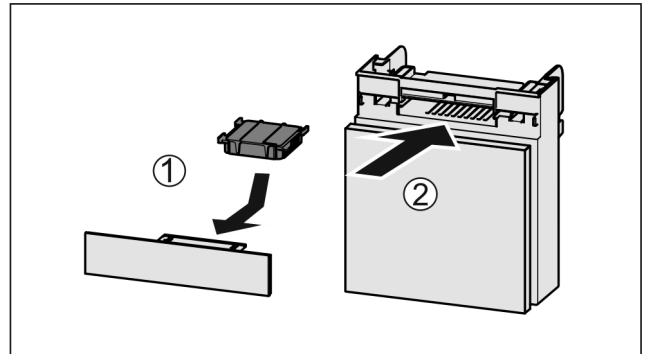

Fig. 109
- ▶ Insert the carbon filter as shown in the diagram Fig. 109 (1).
- ▶ Push the compartment in Fig. 109 (2).